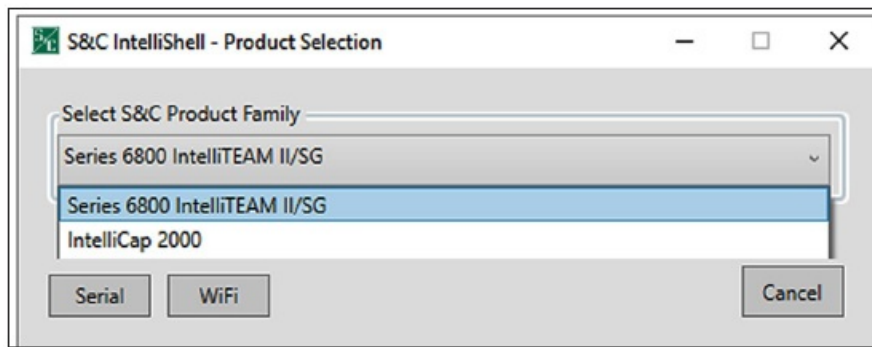

Figure 5. The S&C IntelliShell—Product Selection dialog box.
- **STEP 4.** Select the Series 6800 IntelliTeam II/SG option and click on the Serial button to make a serial connection, or click on the Wi-Fi button to make a Wi-Fi connection. See Figure 5.